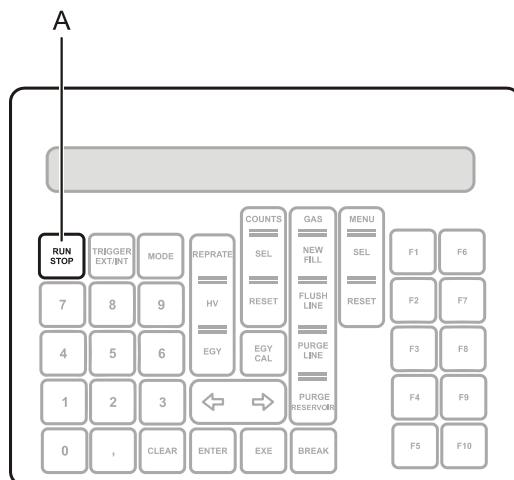

Figure 65: Stopping the laser through the handheld keypad
1. Press <RUN/STOP> (see Figure 65, A).